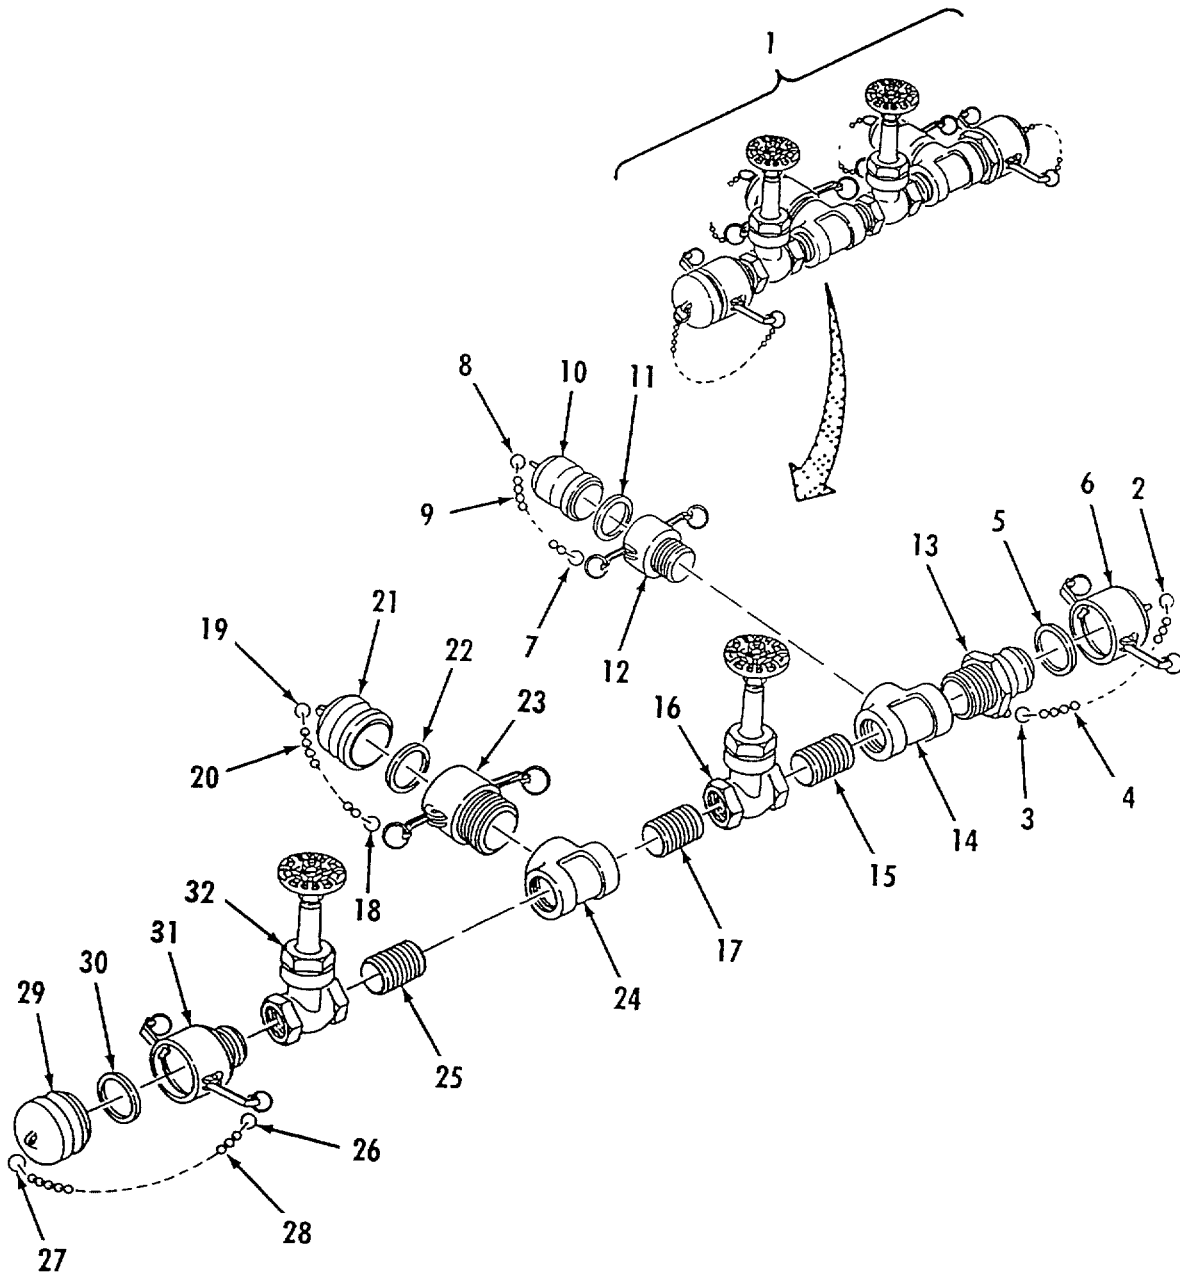

Figure 4-19. Fueling Manifold Repair.
b. Disassembly. Refer to figure 4-19.
d. Repair. Replace damaged or defective parts and all sealing components.e. Assembly. Refer to figure 4-19.**CAUTIONS**
- (1) Apply thread sealant to male threads of all threaded components.
- (2) Install female coupling half (31) on gate valve (32).
- (3) Install gasket (30) in female coupling half (31).
- (4) Install dust plug (29) in female coupling half (31).
- (5) Install split rings (26 and 27) and chain (28).
- (6) Install nipple (25) and tee (24) on gate valve (32).
- (7) Install tee (24) on nipple (25).
- (8) Install female coupling half (23) on tee (24).